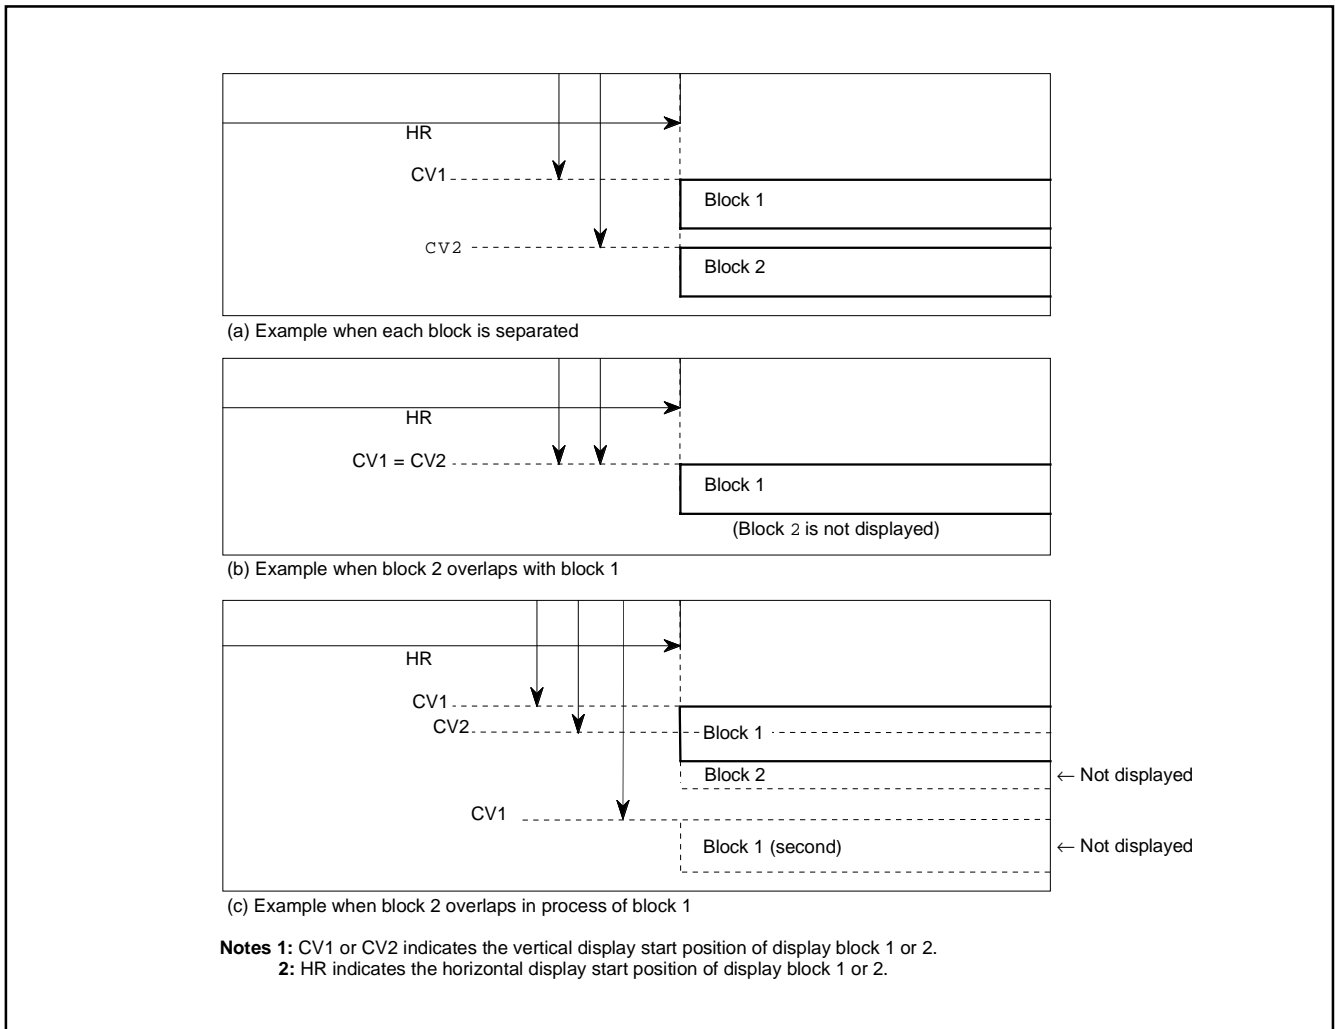

Fig. 8.10.4 Display Position
- Block 2 is displayed after the display of block 1 is completed (Figure 8.10.4 (a)).
- When the display position of block 1 is overlapped with that of block 2 (Figure 8.10.4 (b)), the block 1 is displayed on the front.
- When another block display position appears while one block is displayed (Figure 8.10.4 (c)), only block 1 is displayed. Similarly, when multiline display, block 1 is displayed after the display of block 2 is completed.